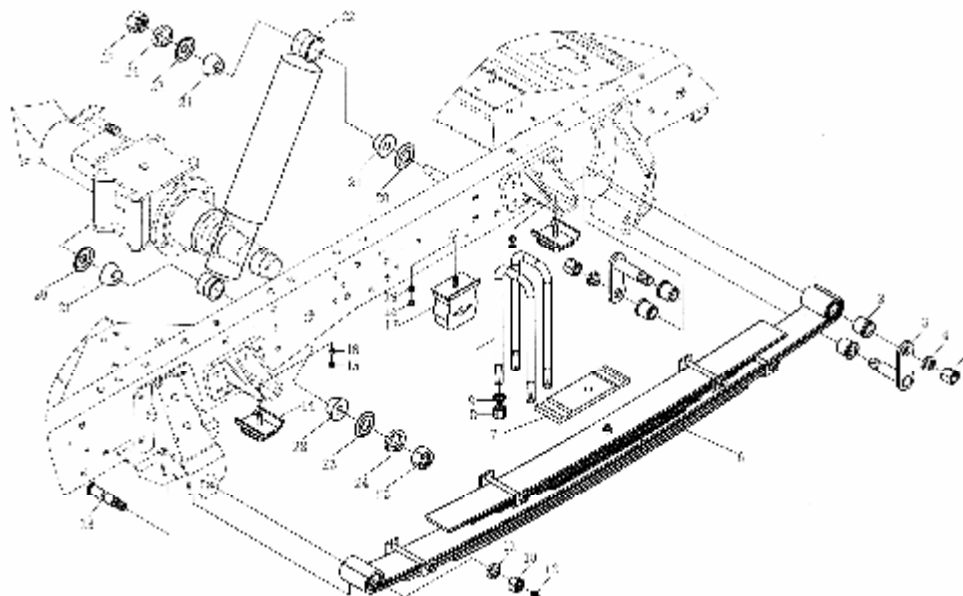

Figure 7-7-2 Rear suspension
Front suspension (figure 7-7-1) mainly consists of front leaf spring assembly (5), shackle plate/pin assembly (2), front damper (12) and front shock absorber assembly (figure 7-7-2).
Rear suspension assembly (figure 7-7-2) consists of rear and auxiliary leaf spring assembly (6), rear leaf shackle assembly (3), rear spring damper assembly (17), auxiliary leaf spring bumper pad (14) and rear spring shock absorber.
Main leaf in rear leaf spring (6) (figure 7-7-2) consists of 4 rectangular section leaf. First rear leaf is bent to coil, an anti-wear nylon bush (2) is pressed into the coil. The second leaf is rolled upward (135°) to wrap the first leaf, strengthening the first leaf. Two ends of 3-4 leafs are drawn down.